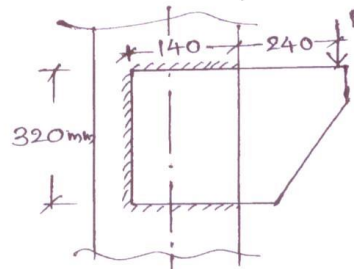

Fig.Q3(b)
- b. Determine the maximum load that can be resisted by the bracket shown in Fig. Q3(b), by fillet weld of size 6 mm, if it is shop welding.